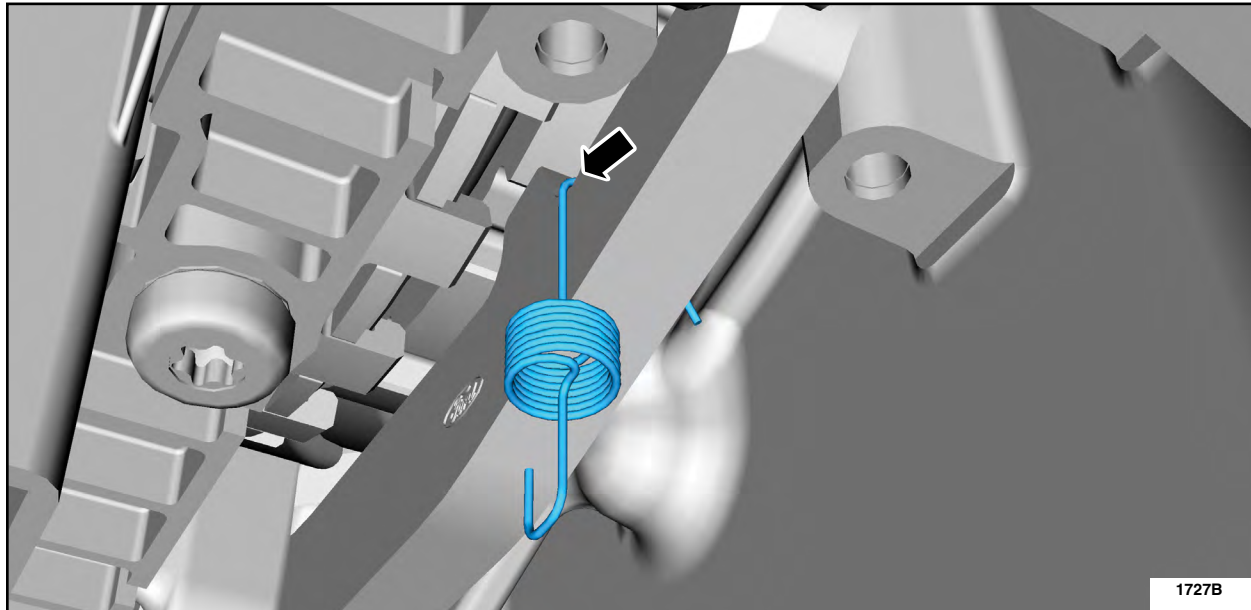

FIGURE 2
4. Reinstall the park pawl return spring onto the park pawl. See Figure 2.